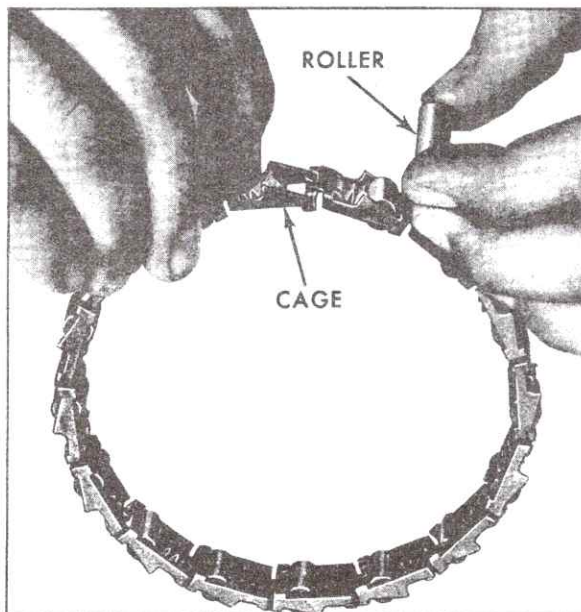

Fig. 7-171 Installing Roller in Roller Clutch Cage
p. Install rollers that may have come out of roller clutch cage, by compressing energizing spring with forefinger and inserting roller from outer side, Fig. 7-171.